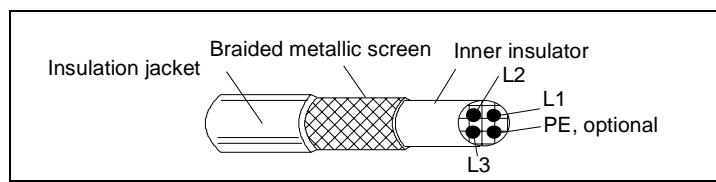

Figure 8 Effective motor cable screen (e.g. Ölflex-Servo-FD 780 CP, Lappkabel or MCCMK, NK Cables).
The general rule for cable screen effectiveness is: the better and tighter the screen of the cable, the lower the radiated emission level. Example of an effective construction is presented in Figure 8.
* Effective motor cable screen is required, according to Figure 8.
For ACS 101-4K1-1 and ACS 103-4K1-1, a cable shown in Figure 8 is required.
With input filters ACS100-FLT-C or ACS140-FLT-C conducted emission complies with the limits for unrestricted distribution class in First Environment as specified in EN 61800-3 (EN 50081-1) provided that the motor cable has effective screen (see Figure 8) and maximum length is 30 m.
The motor cable lengths have to be limited as specified in Table 6 and the cable must have effective screen according to Figure 8. At the motor end, the cable screen must be earthed 360 degrees with an EMC cable gland (e.g. Zemrex SCG screened cable glands).